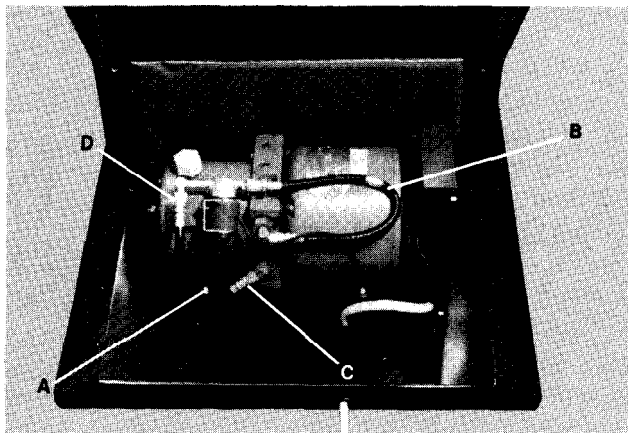

Fig. 36
- 2) Remove the (3) motor leads T1, T2, and T3 from terminal board in Control Box. See Wiring Diagram on Page 31 and Removal of Control Box on page 9.
- 5) Remove the (4) hex nuts, Item A, Fig. 36, securing the motor base in place.
- 6) Tilt motor base and remove the (2) hex bolts securing the motor/pump to the motor base.
- 9) Remove the short pump hose, Item C, Fig. 36, from the pump by removing the fitting with 7/16" & 9/16" wrenches.
- 10) Remove the power hose, Item C, Fig. 36, from the pump by removing the fitting with 7/16" & 9/16" wrenches.
- 13) Place new motor/pump on motor base, align holes on the underside and install (2) $\frac{1}{2}$ " lockwashers and (2) $1\frac{1}{2}$ "-13 x $\frac{3}{4}$ hex bolts.
- 15) Replace power hose, Item C, Fig. 36, on pump, tightening the fitting securely with $\frac{7}{16}$ " and $\frac{9}{16}$ " wrenches.
- 16) Replace short pump hose, Item B, Fig. 36, on pump, tightening the fitting securely with $\frac{7}{16}$ " and $\frac{9}{16}$ " wrenches.
- 18) Place motor base on shock mounts, align holes, and install (4) $\frac{1}{4}$ " lockwashers and (4) $1\frac{1}{4}$ "-20 hex nuts, Item A, Fig. 36
- 21) Replace the (3) motor leads T1, T2, and T3 on the terminal board. See Wiring Diagram on Page 31.